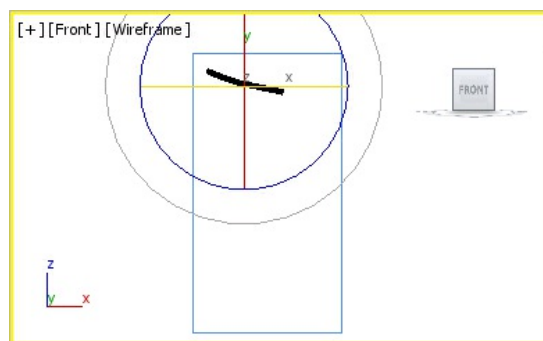

Figure 16-58 Alignment of the *slider1* in the Front viewport
13. Select the **Polygon** sub-object level once again to deactivate it. Next, invoke the **Select and Move** tool and move *slider1* at the top of *back support* and rotate it using the **Select and Rotate** tool in the Front viewport, as shown in Figure 16-58.